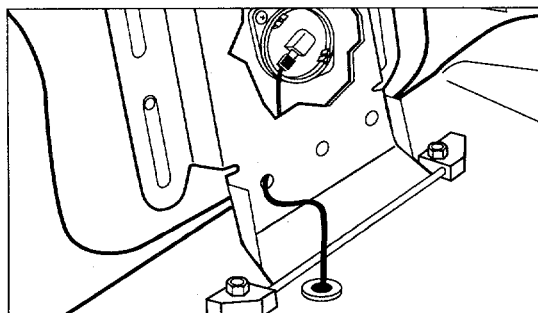

Figure 2-7: Connect the wire coming up from the fender to the electrical switch underneath the seat.
1. Attach the electrical connector at the bottom of the seat to the wire harness connector coming out of the middle of the rear fender assembly. See Figure 2-7. *These two connectors must be securely plugged together for safety reasons—they allow the automatic engine shutoff feature to work if you leave the operator's seat without turning off the engine or engaging the parking brake. The wire harness must also move*